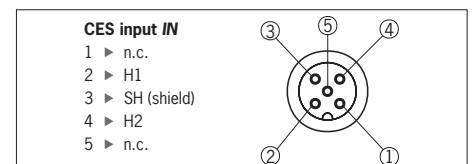

Fig. 1: Terminal assignment (view of connection side)
- ▶ Connect the CES read heads to the CES inputs *IN* (socket, 5-pin, M12) (see Fig. 1)